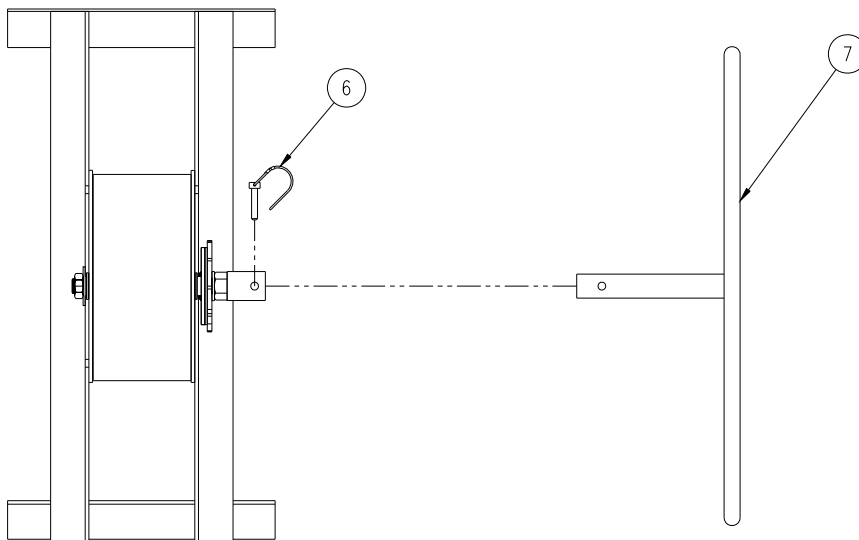

Figure 3.4
4. Fasten the handwheel to the Handihoist as seen in fig. 3.4. When facing the Handihoist from the rear or building side of the track, the Handihoist handwheel is on your right. Details on the Handihoist operation are given in Chapter 4.
1. Before operating install the handwheel using the provided spring lock (fig 3.4).